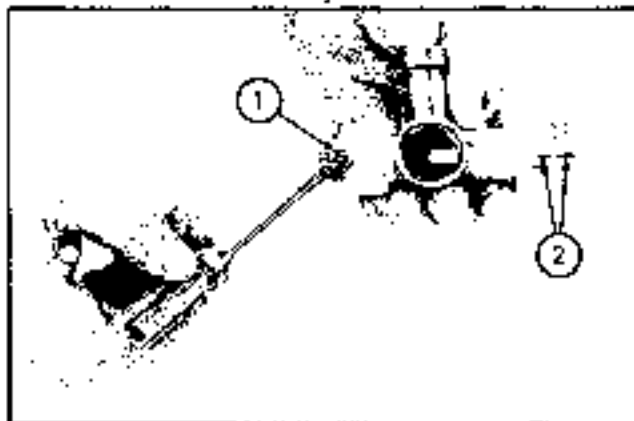
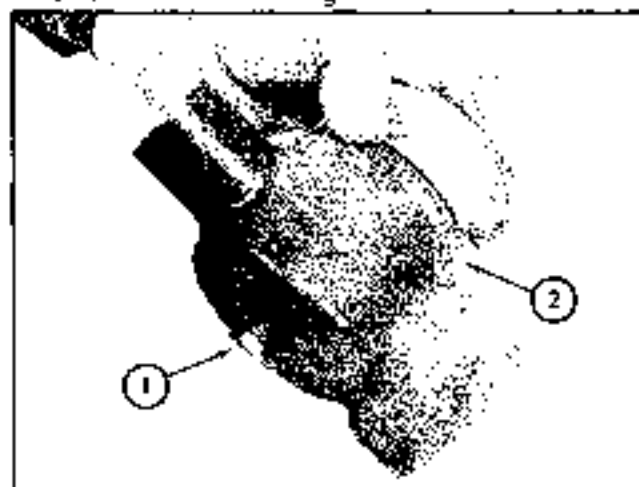

Fig. 136
Fig. 139
- a. Install new valve assembly in body, holding body as shown in Fig. 139. Leaf springs must be straight and parallel. Tap body lightly as tips of blades drop into slots. The springs are visible through set screw holes shown in Fig. 136.
- d. Install set screws for leaf springs, BUT DO NOT TIGHTEN. Make a mark on center of one of "flats" on inlet orifice as shown in Fig. 136. Loosen orifice distance of half of a flat (one-twelfth turn) and tighten set screws against leaf springs. DO NOT OVERTIGHTEN SET SCREWS. Retighten orifice. The leaf springs are now properly adjusted.
- g. Fig. 139 shows a cross section of regulator.